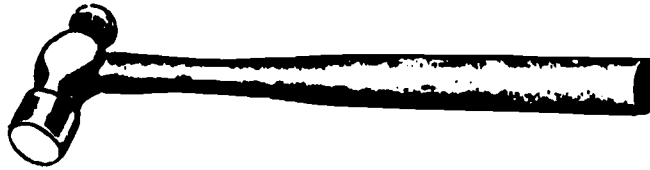

Fig 1-75. Ballpeen hammer.
- **Packing tools:** A ballpeen hammer (fig 1-75) is used as the striking tool when caulking a joint. These hammers range in weight from 4 oz to 2 lb. Usually a 6 oz or 8 oz hammer is sufficient or use when caulking lead joints.